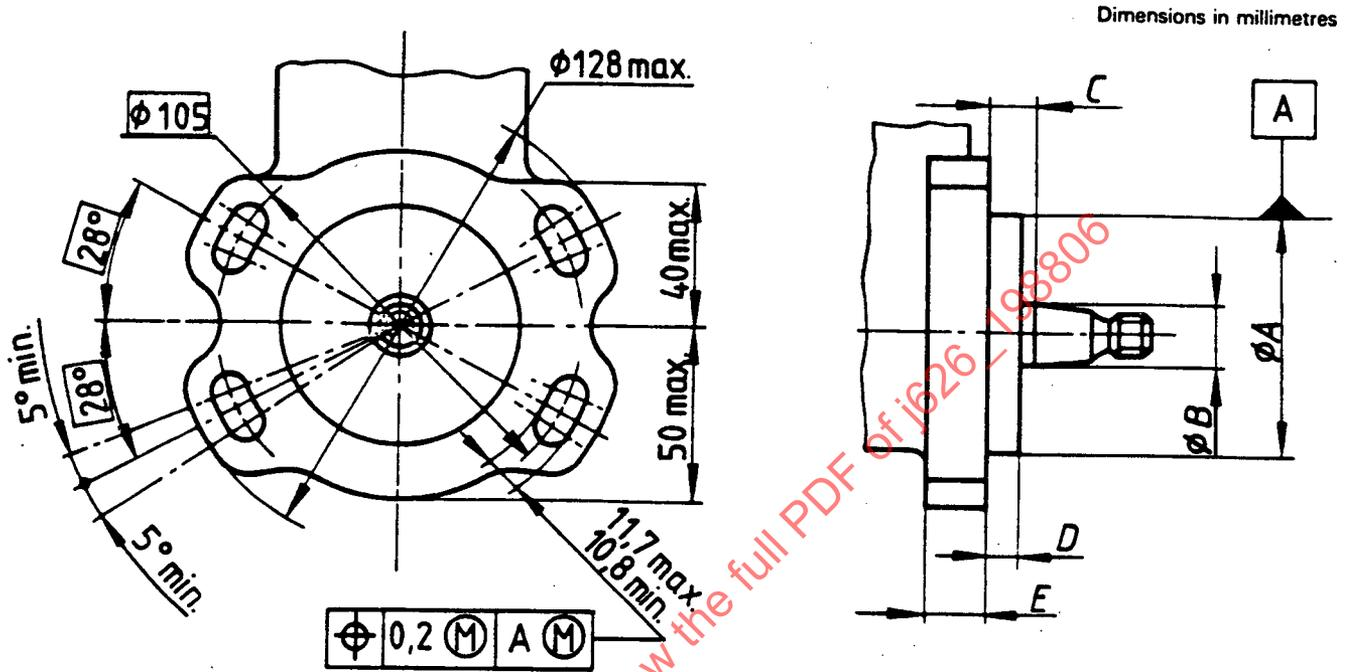

FIGURE 7 - Fuel Injection Pumps - Type 7 End-Mounting Flange
3.2.7 Type 7 Flange: See Fig. 7 and Table 7: